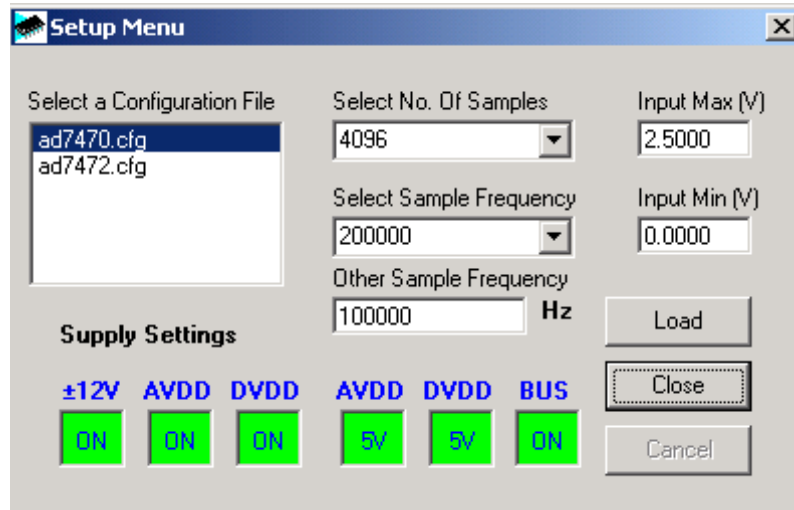

Figure 3. The Setup Dialog Box
Figure 3 shows the setup dialog box. The setup dialog box allows you to load the required configuration file for the evaluation board. The configuration file gives the software detailed information about the AD7470/AD7472 evaluation board and part connected to the EVAL-CONTROL BRD2 such as number of bits, maximum sampling rate, output coding, maximum analog input, and power supply requirements. The configuration file also tells the software the name of the DSP program file, which should be downloaded to the EVAL-CONTROL BRD2. These files are supplied by Analog Devices with the evaluation board.
With the hardware set up, you are now in a position to use the software to control the EVAL-CONTROL BRD2 and the evaluation board. In the main dialog box, select the **File** menu and click **Setup**. This displays the setup form (see Figure 3). A window on the left of the setup form lists all the available configuration files. The configuration files are text based files, which contain information about the particular evaluation board to be tested. The information covers such things as the part name, number of samples to be taken, default and maximum sampling frequency, and power supply settings. The configuration file also contains the name of the DSP program file to be downloaded to the EVAL-CONTROL BRD2. Select the relevant configuration file and click **Load**. The EVAL-CONTROL BRD2 is reset and the DSP program downloaded. When the download is complete, the power supply settings indicated in the configuration file are set and you may hear some of the relays clicking. The pull-down menu items such as number of samples and sampling frequency have been set to the default values specified by the configuration file. The user is free to change these at will. Once all the settings have been decided, click **Close** to return to the main dialog box.
**Setup Menu:** Displays the setup dialog box as shown in Figure 3.